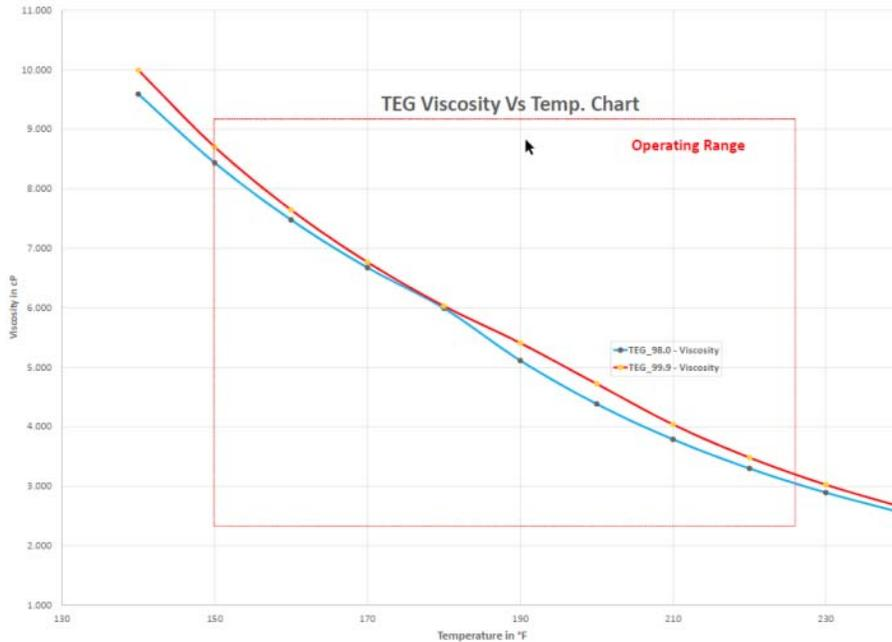

Figure 3. TEG viscosity versus temperature chart.
- **Thin viscosity** – TEG is thin, and changes with operating conditions (70°F= 49cP to 200°F = 4cP). Effective absorption happens when glycol is within 20°F of natural gas at the tower (see Figure 3).